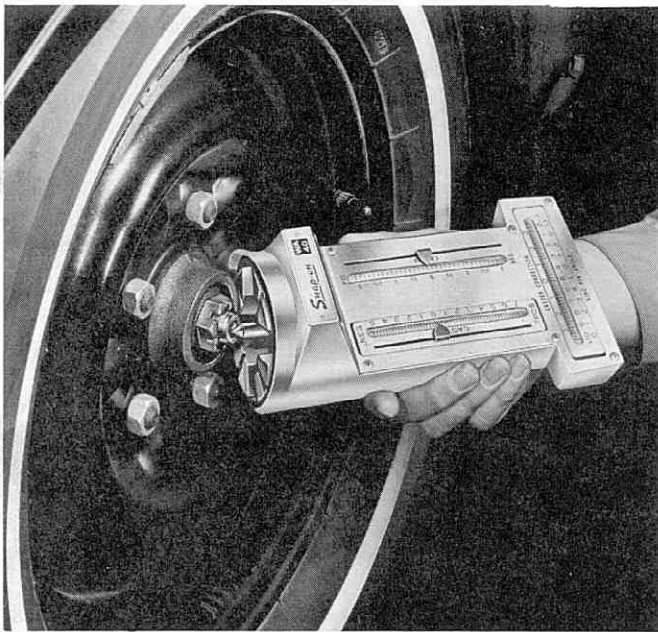

Figure 15—Positioning the gauge
3. Holding the *Snap-on* Magnetic Caster and Camber Gauge near the hub flange, set the self-centering plunger in the lathe center hole in the end of the front wheel spindle. See Figure 15. Powerful alnico magnets will attach the gauge to the machined hub flange of the wheel. Twist the gauge about a quarter-turn several times to let it get a positive seat on the flange. (If there is a rocking motion, remove the gauge and check the flange and the gauge for grit or foreign particles. The self-centering plunger makes sure that readings will be taken from the exact center of the spindle.